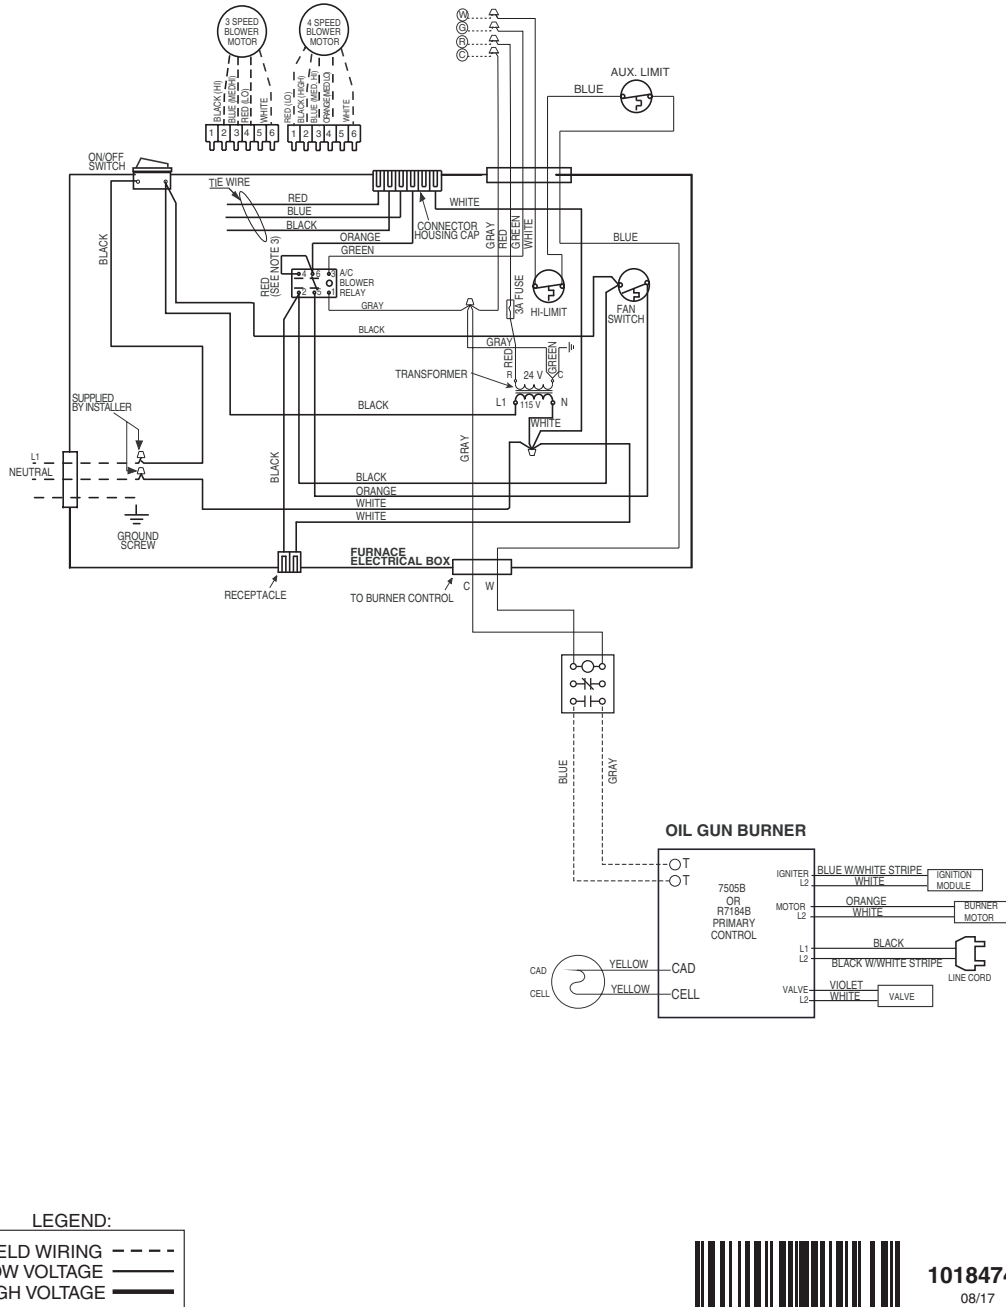

Figure 2. Wiring Diagram
7. Connect the 20" wires (from step 6) to their corresponding terminals on the oil gun burner control panel. See Figure 2.